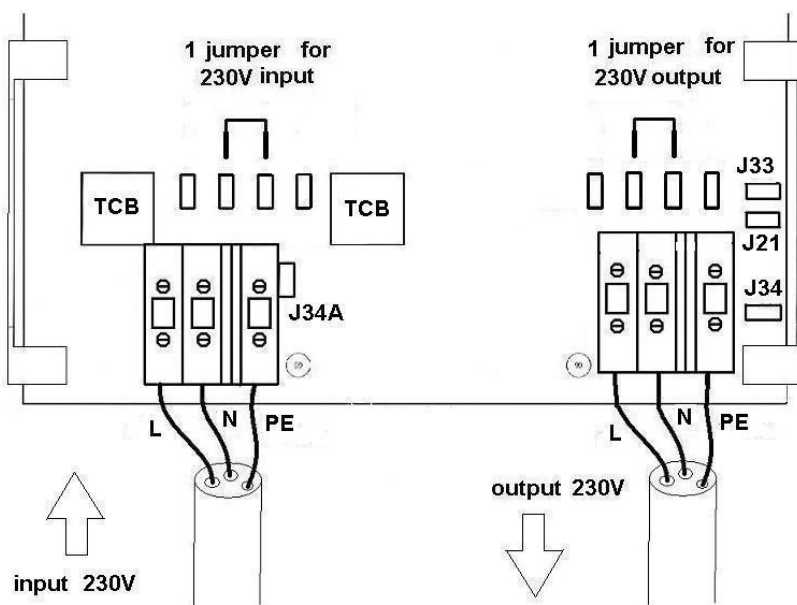

Figure 2: Jumper settings for 230/240 V input and/or output
2.2.1 For 230/240 V input and/or output, connect the push-on jumpers as shown in fig 2.